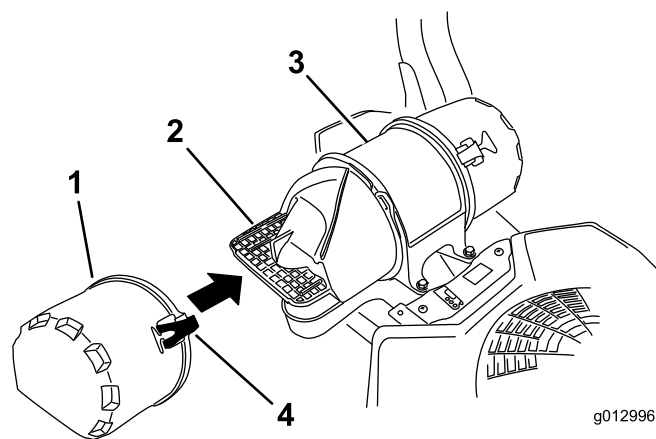

Figure 46
3. Release the latches on the air cleaner, and pull the air-inlet cover off the air-cleaner body (Figure 46).
5. Install the air-inlet cover and secure it with the latches (Figure 46).